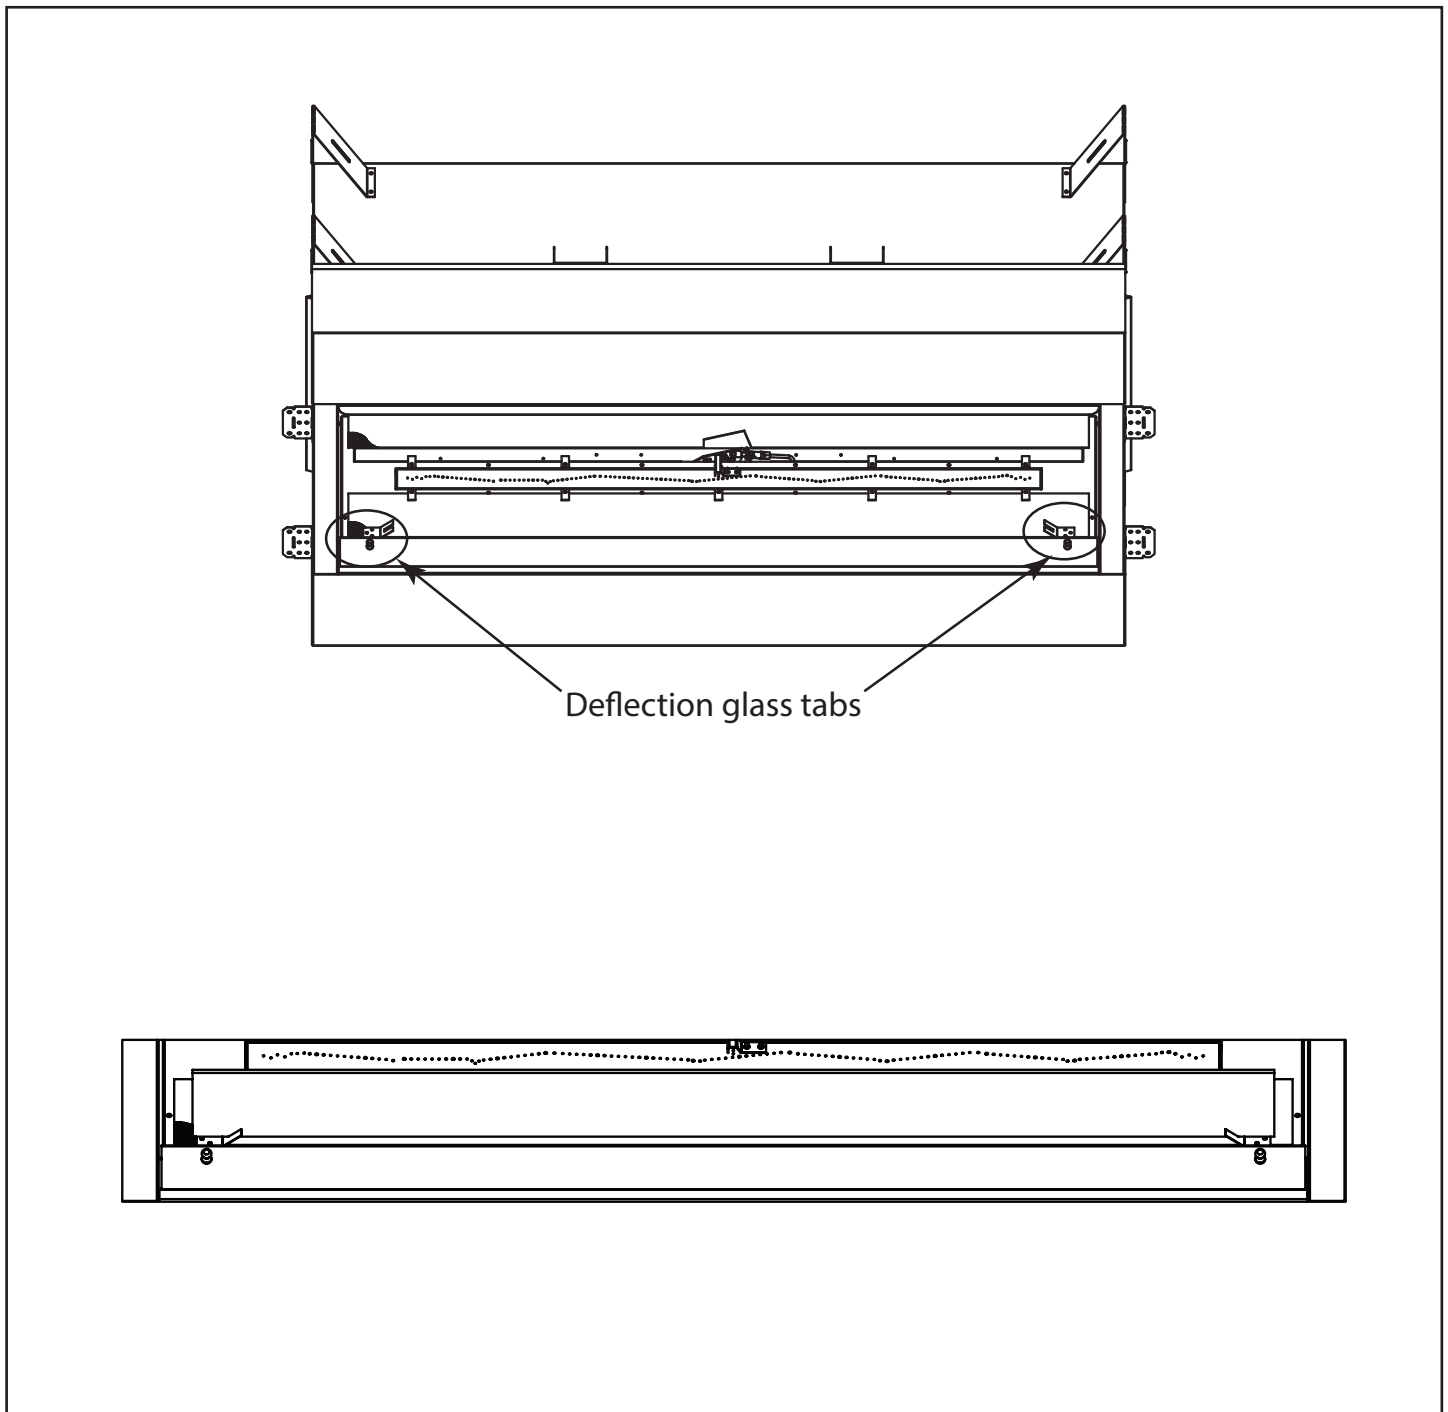

Figure 3.4 Air Deflection Glass
- Ensure that the air deflection glass is seated in the proper position and that the screen is in place. See Figure 3.4.